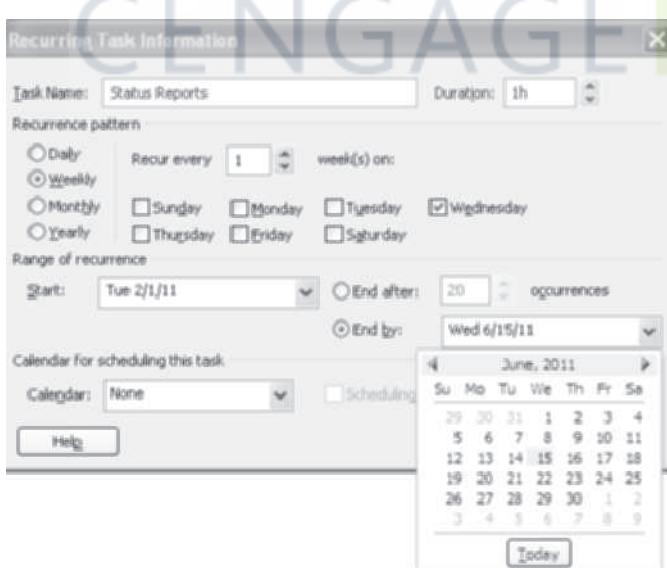

FIGURE A-22 Recurring Task Information dialog box
- Enter task and duration information for the recurring task.* Type **Status Reports** as the task title in the Task Name text box. Type **1h** in the Duration text box. Select the **Weekly** radio button under Recurrence pattern. Make sure that **1** is entered in the **Recur every** list box. Select the **Wednesday** check box. In the Range of recurrence section, type **2/1/11** in the Start text box, click the **End by** radio button, and then type **6/15/11** in the End by text box. Click the **End by** list arrow to see the calendar, as shown in Figure A-22. You can use the calendar to enter the Start and End by dates. The new recurring task will appear above Task 15, Report performance, when you are finished.